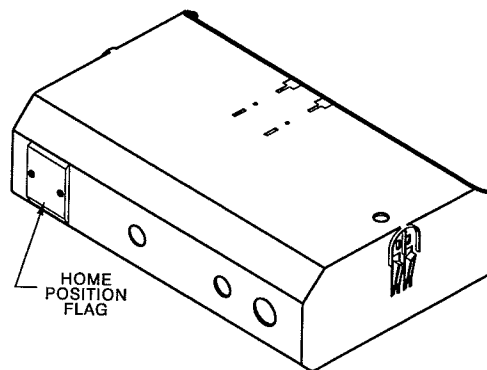
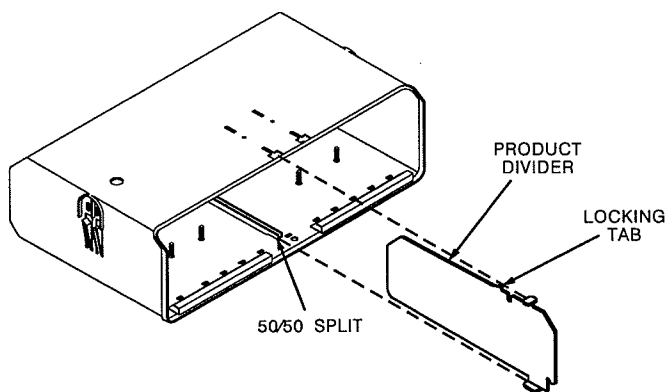

Figure 6. Home Position Flag
Figure 7. Product Divider
The Menu Mart II establishes the “home position” of the carousel whenever power is applied. At the initial home position, selections J0/J1 will be located at the Vend Position. See Figure 7. A home flag (See Figure 6) is on the back of one bucket only. As the carousel is rotated, the Home Position Switch on the back of the conveyer assembly detects the home flag, establishing the home position. As the carousel rotates, the controller identifies the selection at the Vend Position by tracking its relationship to the home position at initial power-up. This sequence is repeated each time power is applied to the Menu Mart II.
4. Reverse the steps to insert a divider. See Figure 7.